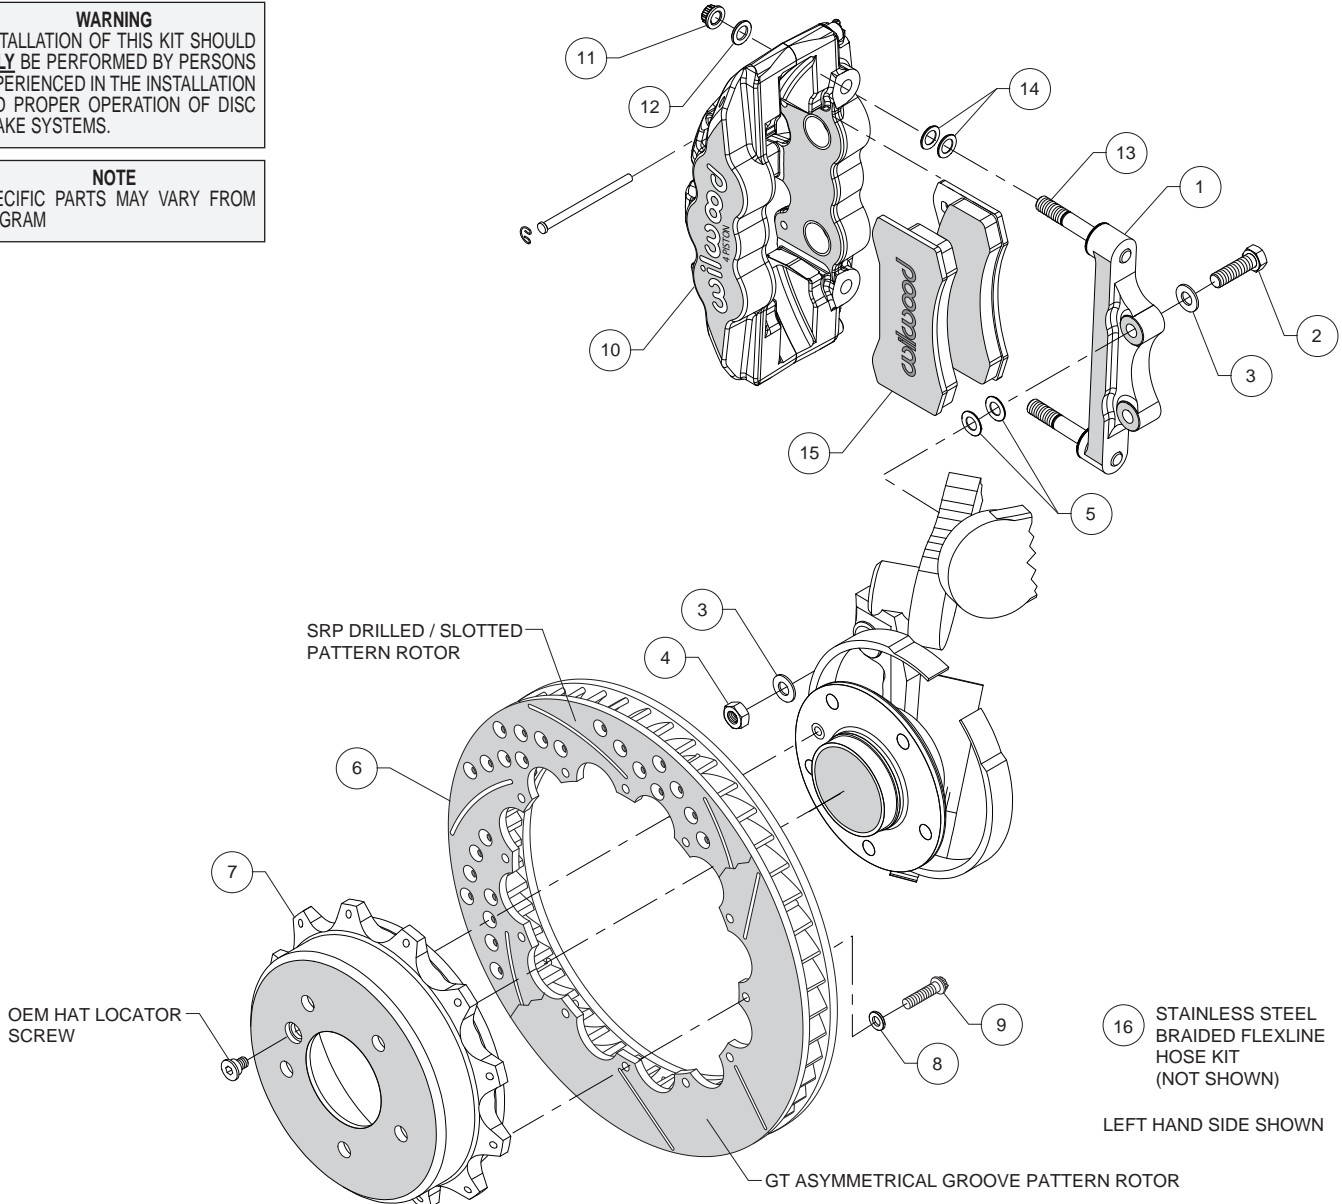
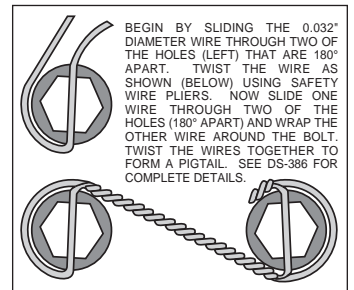

Figure 1. Typical Installation Configuration
Figure 3. Safety Wire Diagram
Assembly Instructions (numbers in parenthesis refer to the parts list and Figure 1 on the preceding pages):
- The caliper mount bracket (1) should initially be installed with clean, dry threads on the mounting bolts. Orient the bracket as shown in Figure 1, and Photo 2, and install using washers (3), bolts (2), and nuts (4). Initially place two .030" thick shims (5) on each bolt between the bracket and upright, Figure 1. Temporarily tighten the mounting bolts. **NOTE: The bracket must fit squarely against the mount bosses on the upright.** Inspect for interference from casting irregularities, machining ridges, burrs, etc. Later, after the caliper alignment has been checked, the mount bolts will be secured using red *Loctite*® 271.
- Orient the rotor (6) and the hat (7) as shown in Figure 1 and Photo 3. Attach rotor to hat using bolts (9) and washers (8). Using an alternating sequence, apply red *Loctite*® 271 to the threads, and torque to 140 **in-lbs**. For an added measure of security, the bolts may be safety wired using standard 0.032 inch diameter stainless steel safety wire as shown in Figure 3.
- Lubricate the caliper mounting studs (13) with lightweight oil. Initially place two .030" thick shims (14) on each stud as shown in Figure 1 and Photo 4. Mount the caliper (10) onto the bracket (1) using lock nuts (11) and washers (12), Figure 1. Temporarily tighten the lock nuts and view the rotor through the top opening of the caliper. The rotor should be centered in the caliper, Photo 5. If not, adjust by adding or subtracting shims (5) between the bracket and the upright. Always use the same amount of shims on each of the two mounting bolts. Once the caliper alignment is correct, remove the bracket mounting nuts (4) one at a time, apply red *Loctite*® 271 to the threads, and torque to 40 ft-lb.
- Remove the two pad retaining pins from the caliper by carefully popping out the pin retaining clips and sliding out the pins. Insert the brake pads (15) into the caliper from the bottom, Figure 1, and Photo 6, with the friction material facing the rotor and secure the brake pads in place with the pad retaining pins and clips, Photo 7. Reinstall the caliper onto the caliper mounting bracket and temporarily tighten the lock nuts. Check that the top of the brake pad is flush with the outside diameter of the rotor, Photo 8. If not, adjust by adding or subtracting shims (14) between the caliper and the bracket. After the caliper pad height is set, torque the caliper lock nuts (11) to 47 ft-lb.